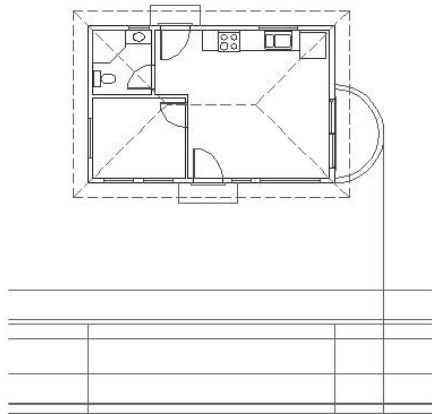

FIGURE 8.6: The building corner lines after being trimmed to the soffit line
2. Start the Trim command. Select the soffit line for a cutting edge for the two building lines, and then press ↵. The two lines to be trimmed are the ones that were dropped from the corners of the building. Pick them anywhere between the soffit line and the floor plan. The lines are trimmed (see Figure 8.6).